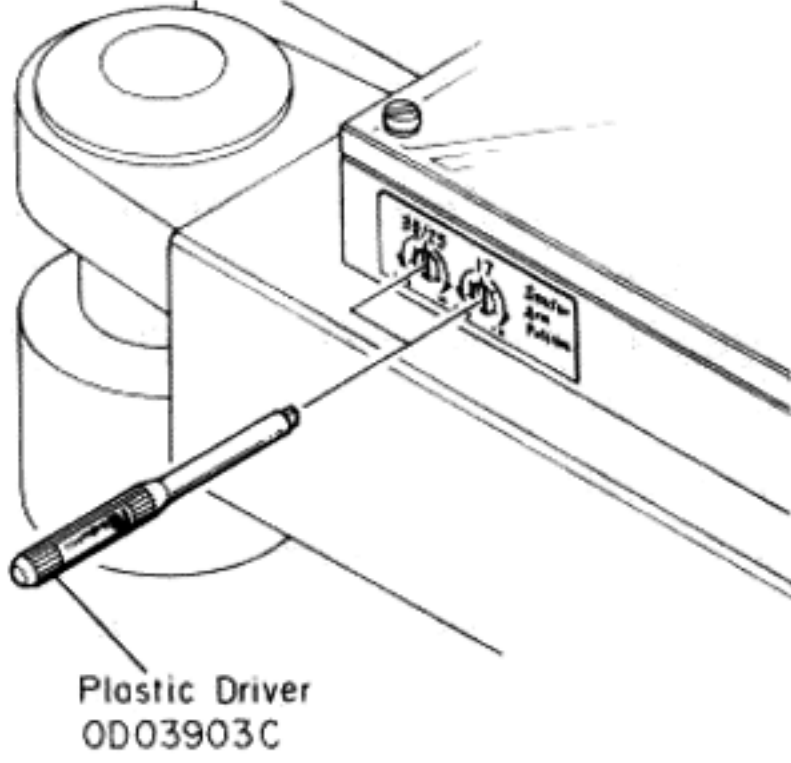

Fig. 1.1
(1) Sensor Arm Position Screwdriver Controls have been mounted on the Display Panel on the left side of the TX-1000. Refer to Fig. 1.1.